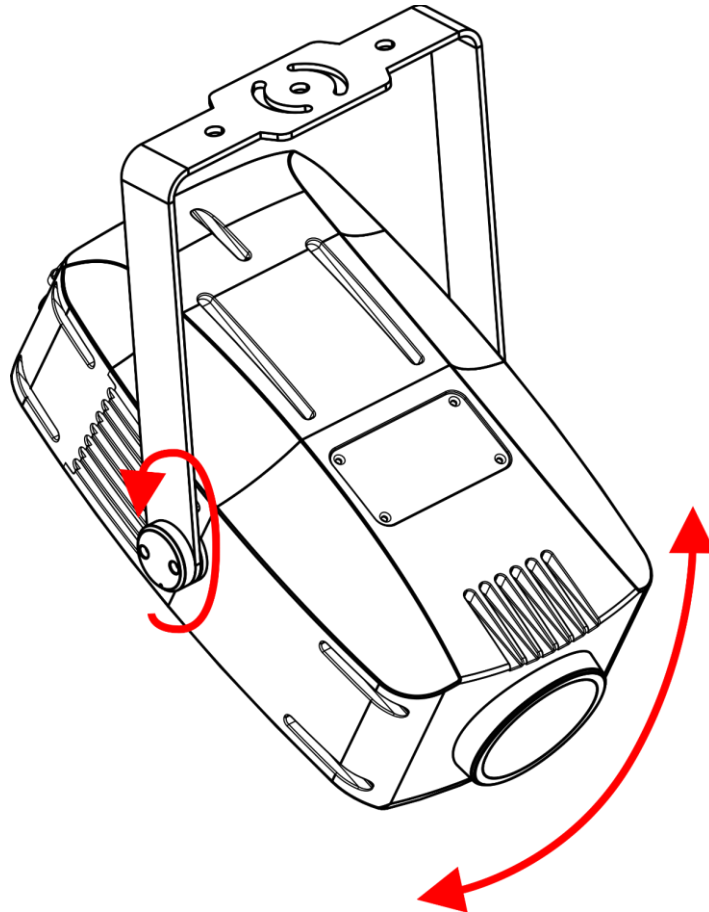

Fig. 07
- 01) Turn the **adjustment screw (03)** counterclockwise to release it.
- 02) Tilt the device to the desired angle (see Fig. 07).
- 03) Turn the **adjustment screw (03)** clockwise to tighten it. Make sure that the device cannot move freely after the **adjustment screw (03)** is tightened.